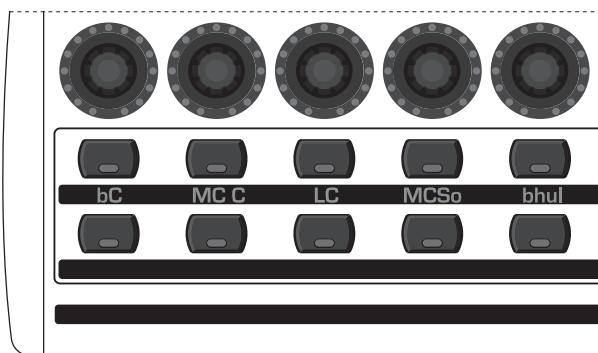

Fig. 4.9: Emulation mode buttons
1. Push and hold the desired mode button (see fig. 4.9).